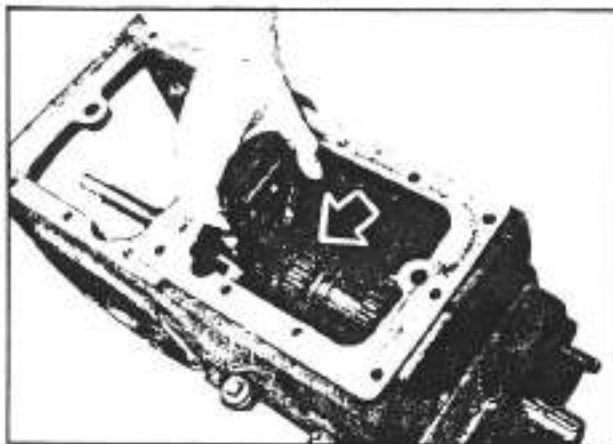

Fig. 3-32. Removal of the lock rings
- i. Extract both the retaining ring located behind the first gear and the retaining ring located behind the last gear (see figure 3-32).